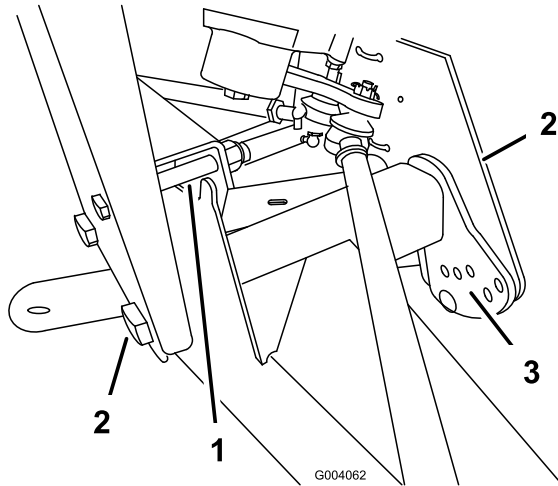

Figure 42
2. Remove the travel limiting bolt (Figure 42).
- Loosen the centering bolts in the front A-arm (Figure 42).
- Remove the ride height adjustment bolt (Figure 42).
- Rotate the front A-arm to the desired position (refer to the note below) and replace the ride height adjustment bolt (Figure 42).
- Replace the travel limiting bolt (Figure 42).